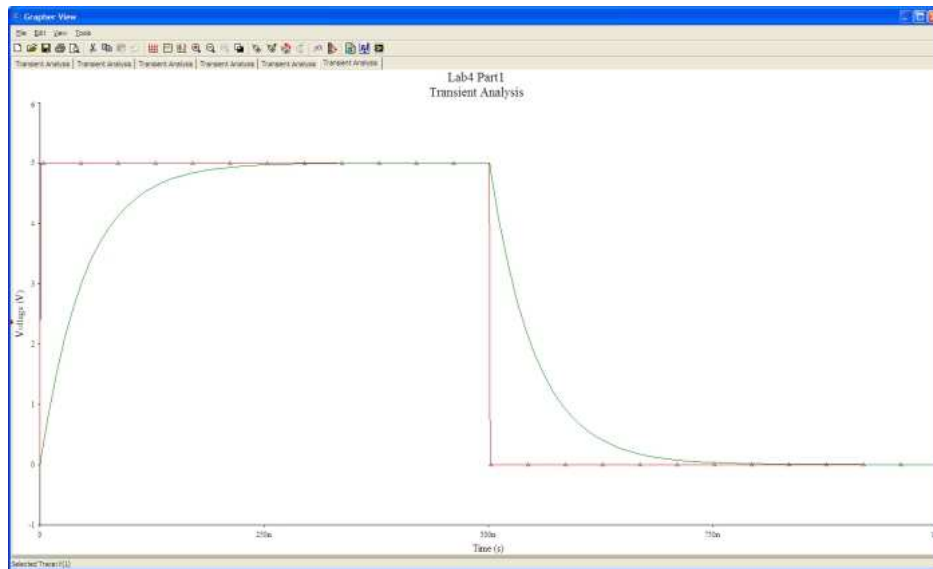

Figure 3: Transient analysis plot
- In the Output tab, add V(1) and V(2) to the selected variables list so it will plot both the source voltage and the capacitor voltage.
- Click the *Simulate* button and a *Grapher View* window will appear showing your plot. It should look like the one in Figure 3. To toggle the background color between black and white, from the *Graphs* menu, select *Black and White Color*.